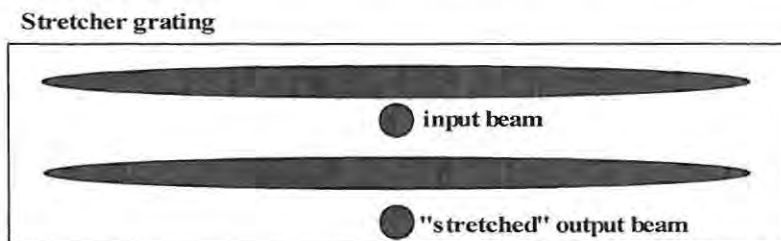

Fig. 3.11 The optimum performance of the spectrum pattern on the stretcher grating.
11. Mode-lock the Seed Oscillator and ensure optimum performance. When this is the case, one should be able to observe the following pattern (Fig. 3.11) on the grating surface. If the two “strips” appear shifted horizontally, make a slight rotation to the grating block so they appear as shown below.